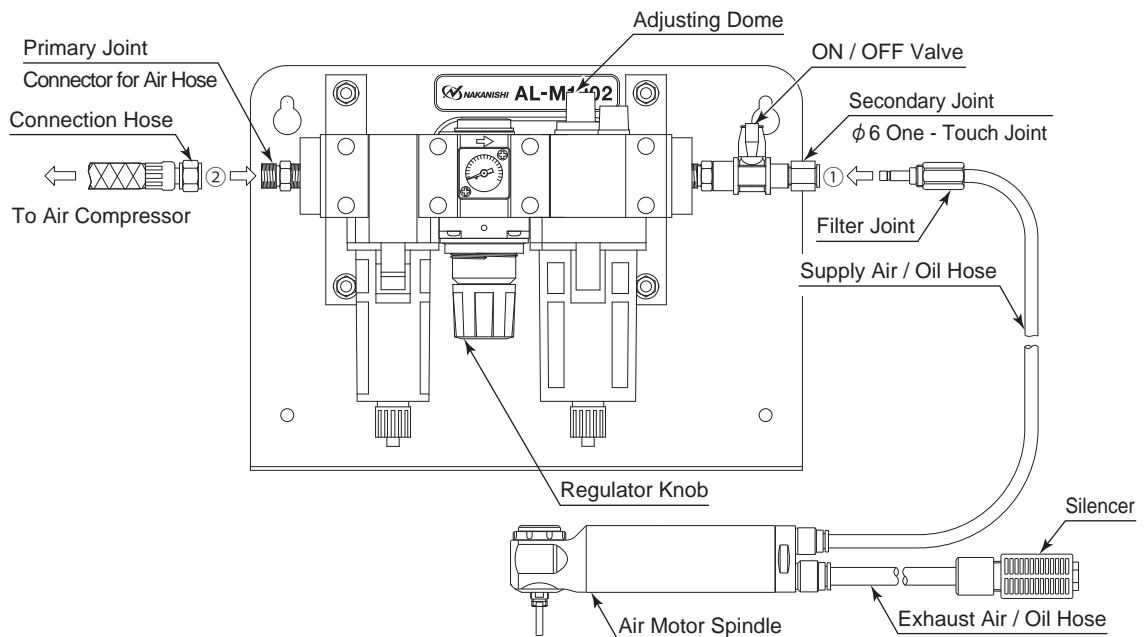

Fig. 13 Connection of Air Line Kit " AL - M1202 (Sold Separately) "
- ① Connect the Filter Joint of the supply air / oil hose to the Secondary Joint (  $\phi 6$  One - Touch Joint) of the Air Line Kit (Fig. 13 ① ).
- ② Fill Oil Reservoir through the Oil Filler Cap with recommended NAKANISHI Lubricating Oil (K - 211 : Air Line Kit's Standard Accessories) to Upper Limit. Disconnect from air supply prior to opening Oil Filler Cap. Do not over or under fill.
- ③ Connect the connection hose (Air Line Kit's Standard Accessories) to the Primary Joint of the Air Line Kit and Compressor (Fig. 13 ② ).
- ④ Supply air from the air compressor and turn the Regulator Knob to set air pressure between 0.3 - 0.5 MPa (43.5 - 72.5psi).
- ⑤ Turn the ON / OFF Valve and rotate the Air Motor Spindle with recommended proper air pressure. Adjust the Oil Drip Rate to the recommended volume which is 1 to 3 drops / min. (Commercially Air Line Kit is same Oil Drip Rate).